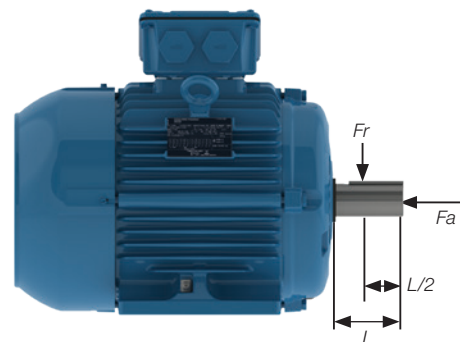

Figure 24 - Radial and axial thrust on motor shaft
The figures given in the tables below for radial thrusts take into consideration the point upon which the load is applied, either at the centre of the shaft (L/2) or at the end of the shaft (L), figure 24.